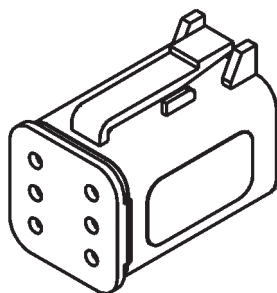

Figura 16
**Resistencia terminal (Figura 16)**